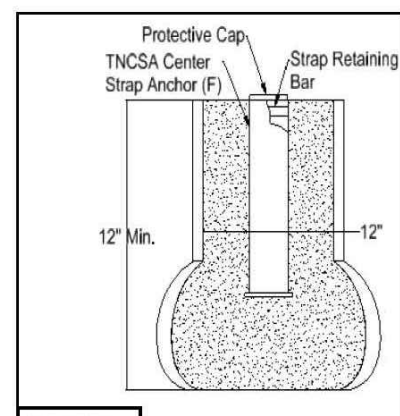
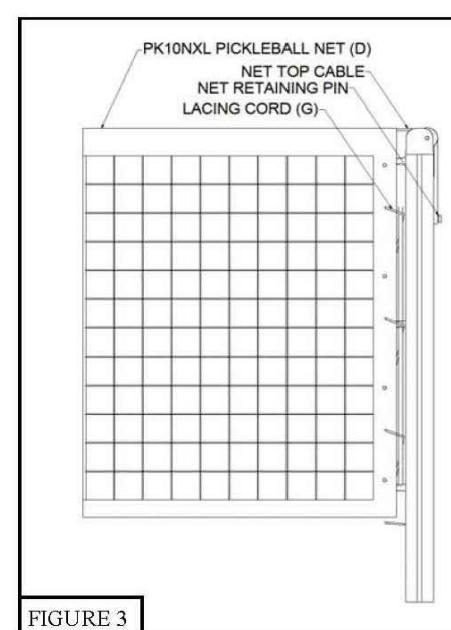

FIGURE 2
FIGURE 3
- Dig one 8" round and a minimum 12" deep hole centered between the two pickleball posts (make sure to bell out the bottom of the hole). Insert *TNCSA Center Strap Anchor* (F) with the strap retaining bar running parallel with the *PK10NXL Net* (D) and fill hole with concrete. The hole will require 2 to 3 1/3 cubic bags of concrete. See Figure 2.
- Concrete must cure 7-10 days before continuing with *PK10NXL Pickleball Net* (D) installation.
- Stretch out *PK10NXL Pickleball Net* (D) across the court.
- Hook the loop on the *PK10NXL Pickleball Net* (D) top cable around the net retaining pin on *Non-Winch Post* (B) and over the top pulley. See Figure 3.
- Insert dowels through the end side tapes of *PK10NXL Pickleball Net* (D).
- Square up *PK10NXL Pickleball Net* (D) to each post, use *Lacing Cord* (G) to secure *PK10NXL Pickleball Net* (D) to each post. See Figure 3.
- Attach *TN10CS Center Court Hold Down Strap* (E) to the strap retaining bar in the *TNCSA Center Strap Anchor* (F). Adjust *TN10CS Center Court Hold Down Strap* (E) so top of *PK10NXL Pickleball Net* (D) measures 34" at the center. See Figure 2.
- When installing sockets indoors the hole needs to be 8" diameter X 15" deep for volleyball and 30" deep for tennis. See Figure 2.
- Use *Cover Cap* (C) when socket is not in use.